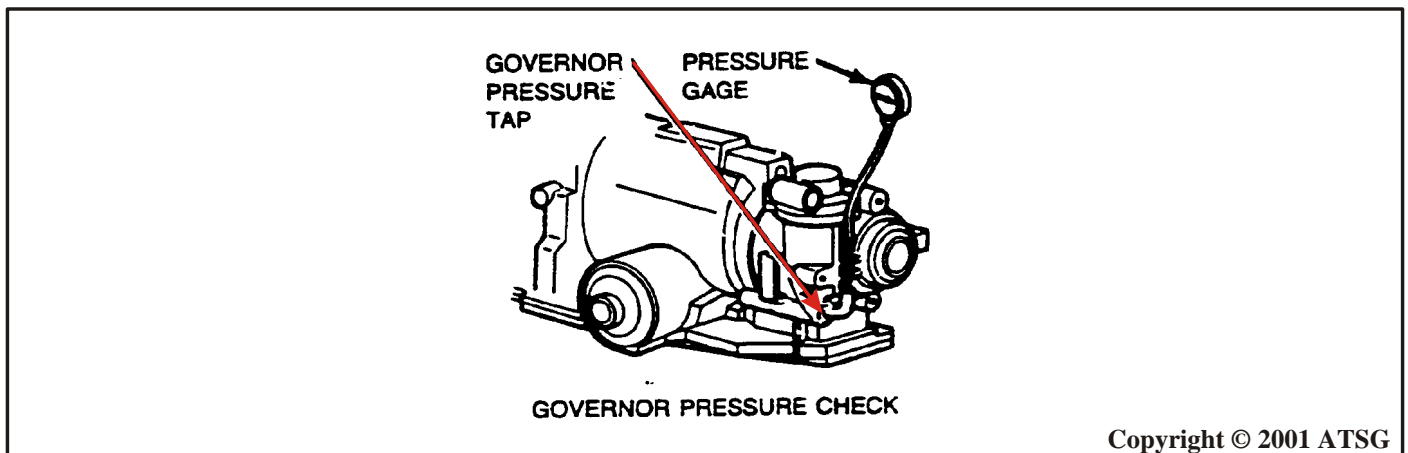

Figure 1
- 5 Install a 0-100 PSI pressure gauge at the governor pressure tap and monitor governor pressure while the condition is occurring (refer to Figure 1).